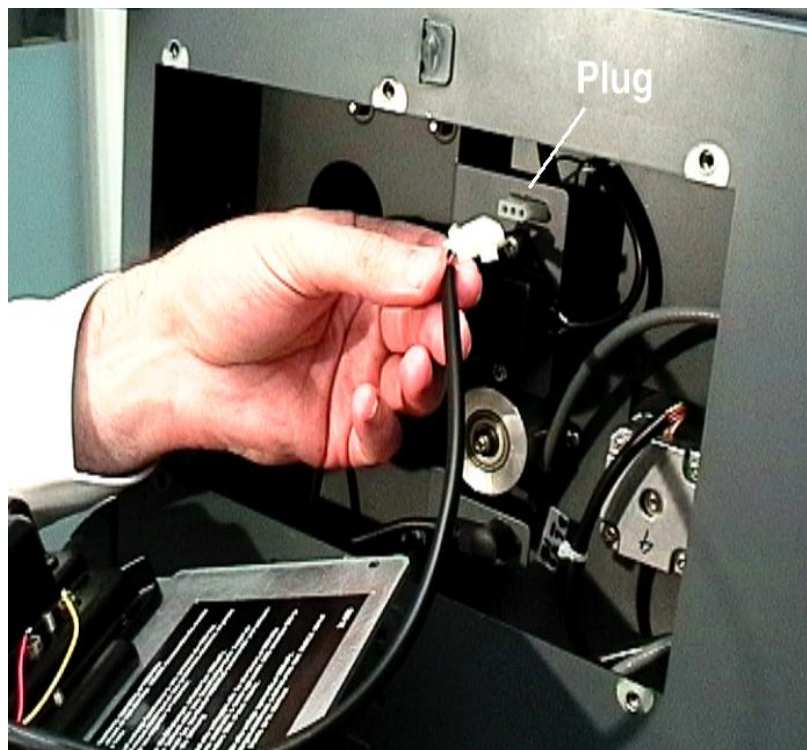

Figure 4. Unplugging the 3-pin connector
- 4 Hold the lamp module out from the instrument and unplug the 3-pin connector from the Cary 50 (refer to Figure 4). Discard the lamp module.